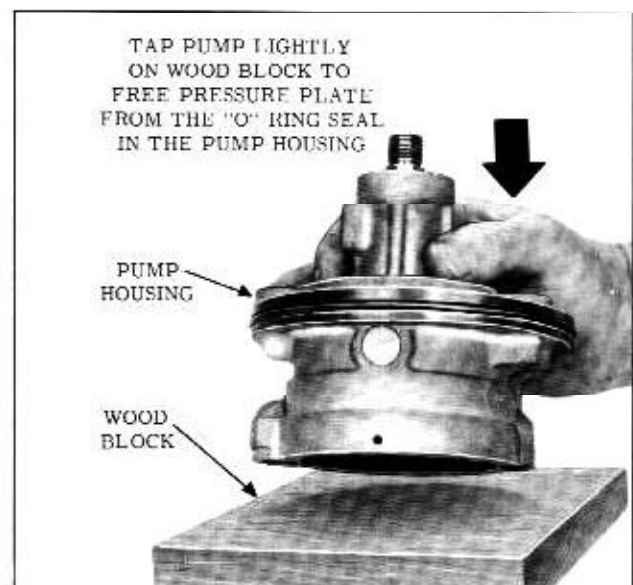

Fig. 4-52 Removing Pressure Plate
8. With pump housing turned over, tap housing on wood block until pressure plate falls free. (Fig. 4-52) Flow control valve will come out also.